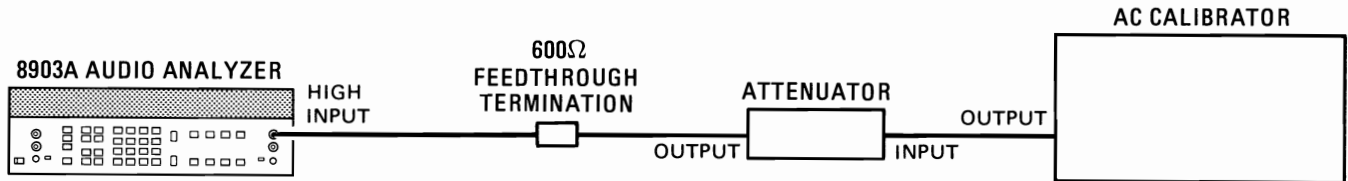

Figure 4-1. Low-Level AC Level Accuracy Test Setup
3. Connect the equipment as shown in Figure 4-1. Set the ac calibrator for 3 Vrms. Set the attenuator to 40 dB.